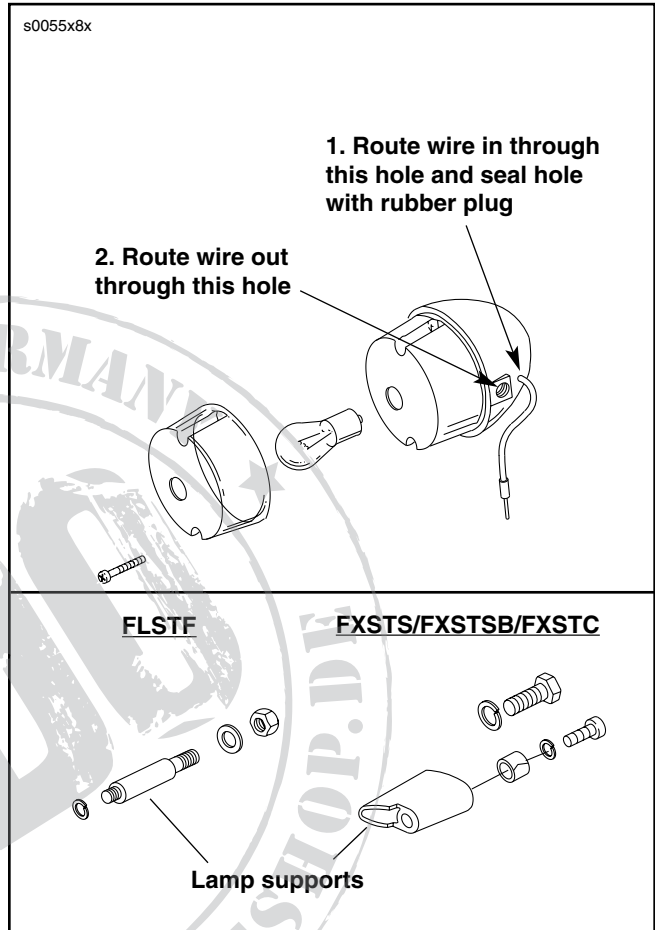

Figure 1. Rear Turn Signal Assembly (turn signal rotated 90° to show harness holes)
- See Figure 1. Unscrew the nuts that hold the turn signal lamp supports in place and keep the nuts and lockwashers to reinstall later on the new studs provided in this kit. Remove the lamps and supports and pull the turn signal wires through the fender holes. See "Service Parts" illustration. Install bolts (13), washers (14 and 15), and acorn nuts (16) in holes where turn signals were originally located and torque acorn nuts to 21-27 ft-lbs (28-37 Nm).
- See Figure 1 and the "Service Parts" illustration. Pull harness into the turn signal housing then route harness through thin jamnut (8) and back out of housing